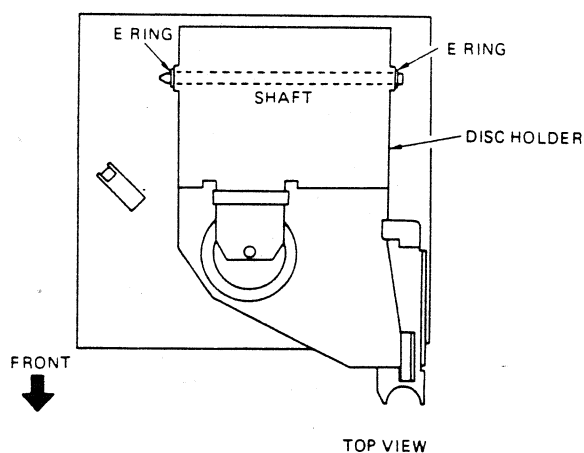

Fig. 12
- 1) Remove the E-ring, pull the shaft out and remove the disc holder. (Fig. 12)